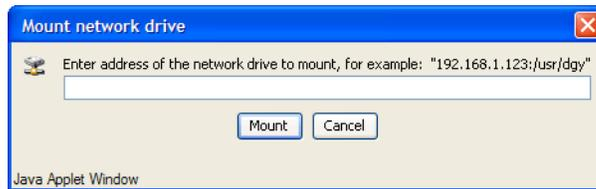

Figure 3-25 Remote Disk Mount Network Drive Window
- 4) Enter the path name to the remote disk in the **Mount Network Drive** pop-up window (Figure 3-25). The path name consists of two parts, the IP address of the remote storage device, and the name of the shared space that has been created on the device (known as the NFS name). Obtain this information from the IT manager or network support specialist.